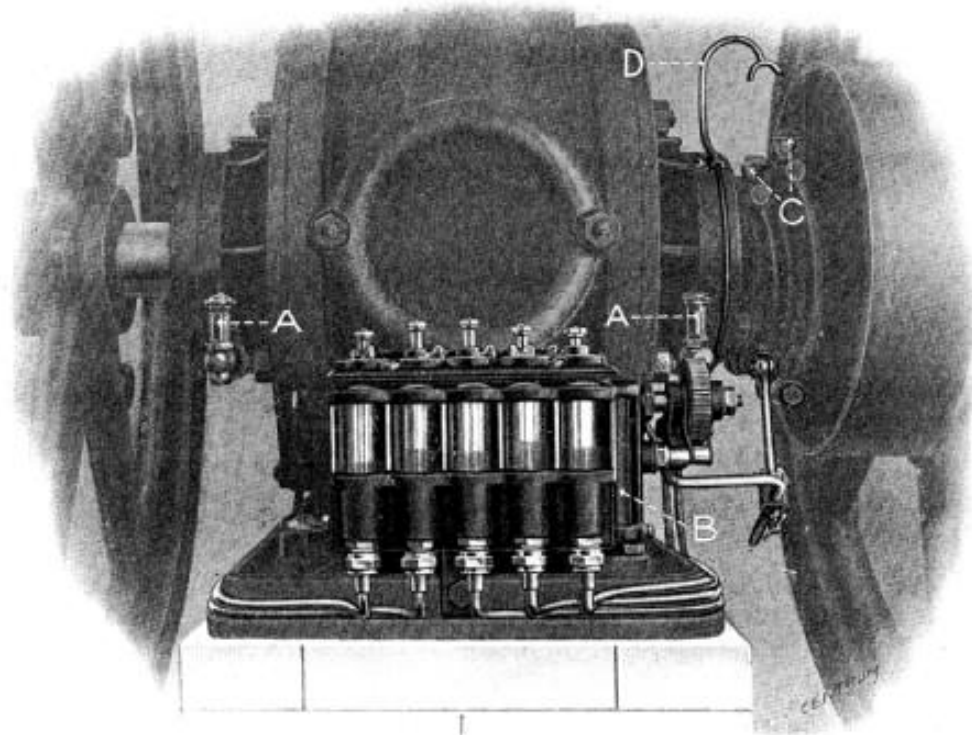

Fig. 19.
working of the pistons can thus be controlled. If a window fills with oil, the packing (274) is not in good condition and should therefore be replaced. In order to empty the window turn the pointer (261) to the left as far as possible. The pipe in the piston then communicates with the air pipe (265). Now press down the piston, when same stands uppermost, several times by hand, whereby only air is pumped and the oil driven out from the window. If the oil should not disappear but raise and fall in the window, the non return valve (256) is dirty and must therefore be taken out and cleaned. The three pistons furthest to the left force the oil to the engine cylinder and the pointers of these pistons should indicate the figure 5. The fourth piston lubricates the crank bearing and its pointer should stand on 7 or 8. The piston furthest to the right forces the oil through the pipe (D) to the two oil cups (C) of the eccentric straps (see fig. 19) and its pointer should point to the figure 5.
The main bearings are lubricated by means of a ring lubrication of excellent construction. Before the first starting of the engine, fill the receiver of the bearings with good engine oil. There must always be plenty of oil in these receivers. The oil level can be observed by means of the glass (A, fig. 19). The lids of the receivers must always be in their place in order to prevent dust and water etc. from entering the bearings and thus causing heating of same.